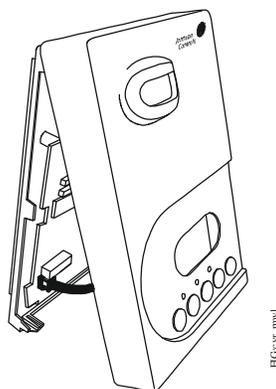

Figure 1: Removing the Thermostat Controller Cover (TEC2101-4+PIR Model Shown)
2. Pull the bottom edge of the thermostat controller cover and open the thermostat controller as illustrated in Figure 1.